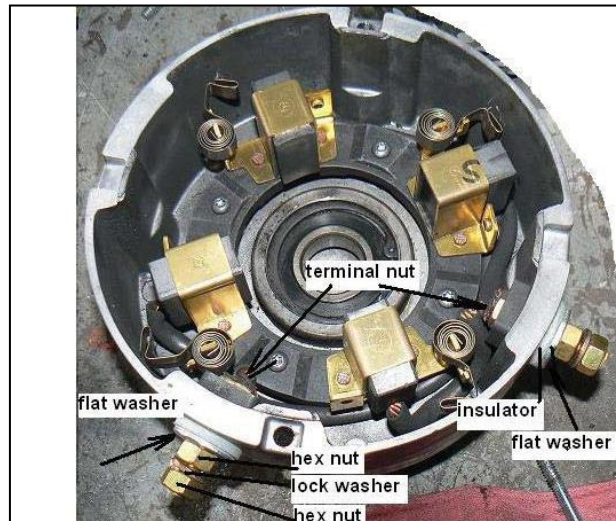

Figure 10-17
4. Install insulators and brush leads into motor head. See Figure 10-17. Brush motor terminals, A1 and A2, should be torqued to 140 in. lbs. (15.8 Nm).